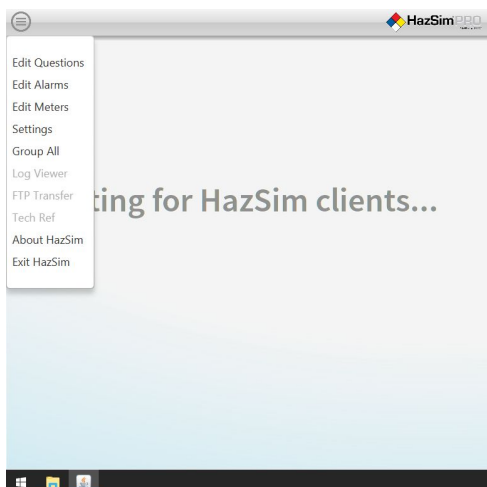

Figure 15: Advanced features menu.
Your HazSim Pro 2.0 system has several factory preset alarms based on industry standards but may not be the same as your local protocol. To customize alarms, go to the drop down menu and select 'Edit Alarms' (Figure 15 below).
1. Click on advanced features menu (see Figure 15)
1. Click on the Advanced Features menu (see Figure 15)
1. Click on Advanced Features menu (see Figure 15).